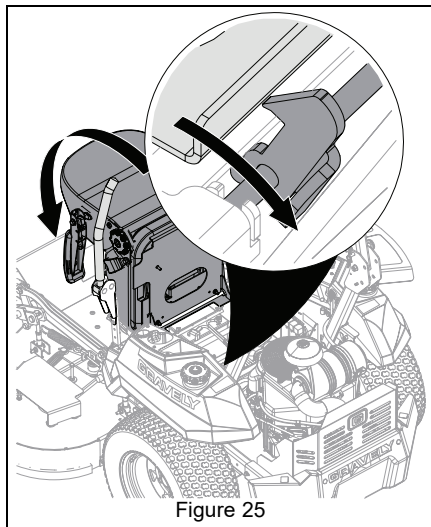

Figure 25
4. Disengage seat latch from seat plate and rotate seat forward. See Figure 25.